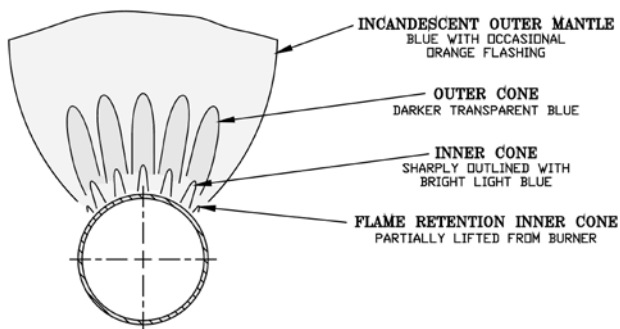

Figure 23: 40mm Main Burner Flame
- 5. MAIN BURNER FLAMES should have a clearly defined inner cone (see Figure 23 or 24) with no yellow tipping. Orange-yellow streaks caused by dust should not be confused with true yellow tipping.